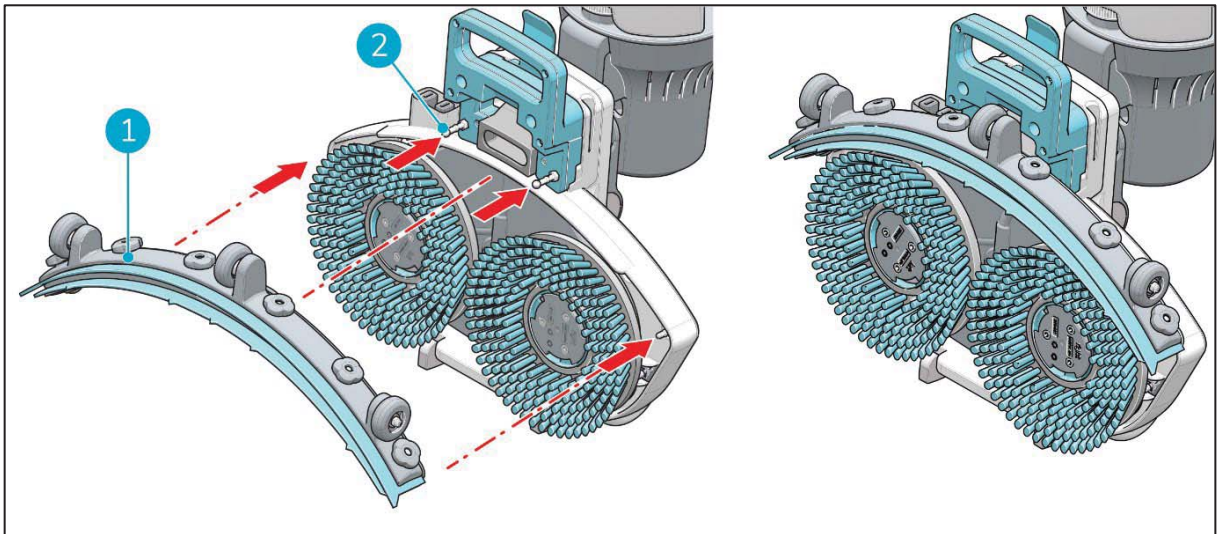

Figure 27
2. Align the pins on the scrub deck (Figure 27, pos 2) with the holes on the squeegee (Figure 27, pos 1).